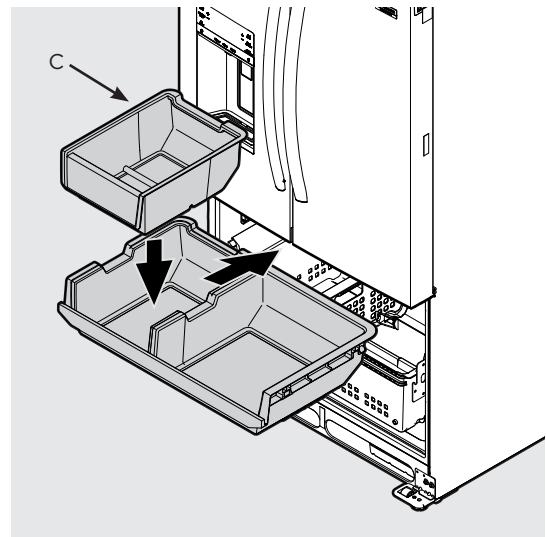

Figure 4
9. Put the ice bucket (C) on the basket as shown in Figure 4.